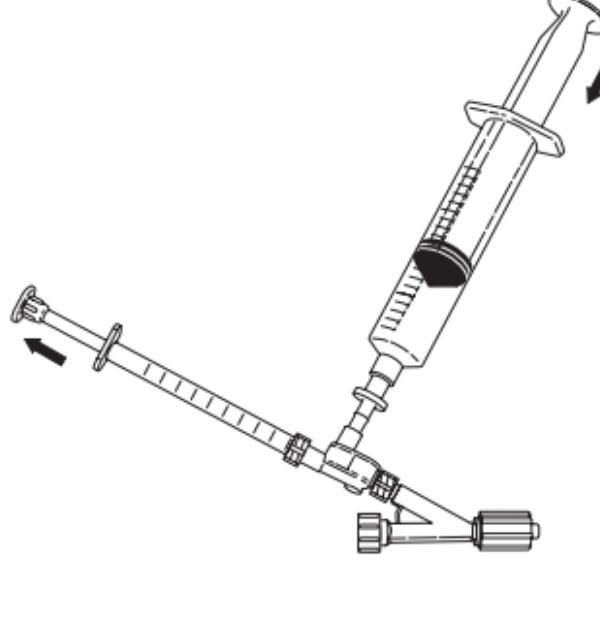

Fig. 4
6. Attach the 1 mL syringe to the injection port and aspirate 0.5 mL of solution. Detach the 1 mL syringe and purge all air bubbles from the syringe. Leave a meniscus of solution on the injection port before the 1 mL syringe is reattached by depressing the 20 mL syringe slightly to prime the injection port. Reattach the 1 mL syringe to the injection port. (**Fig. 4**)